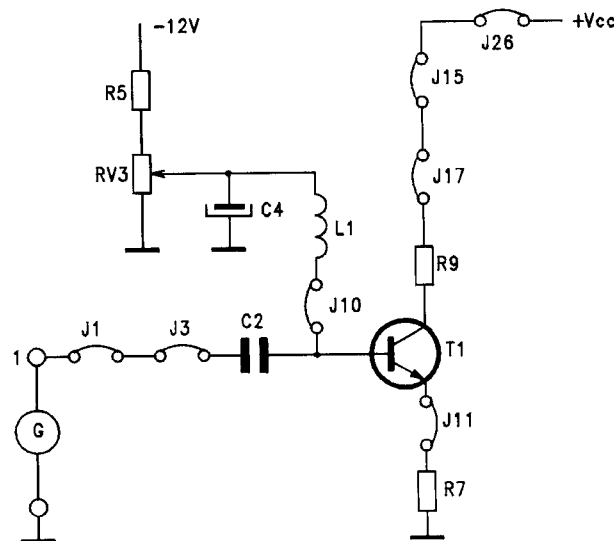

fig. B32.2
- Insert jumpers J1, J3, J10, J11, J15, J17, J26, to produce the circuit of figure B32.2